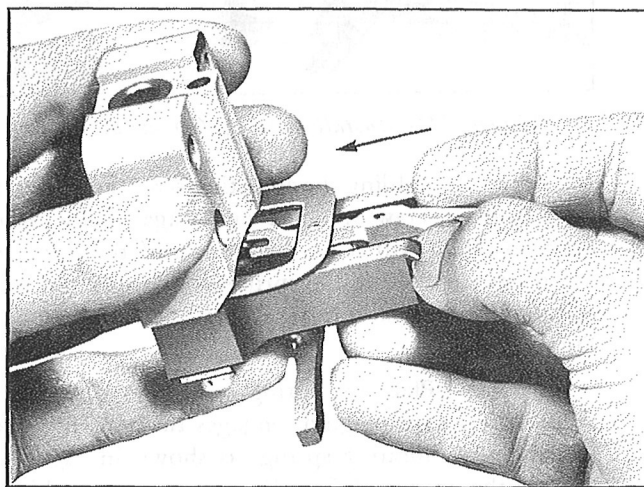

Figure 239—Installation of the Lever
*Step 7.*—Taking the lever part, insert it between the lever roller of the carriage and the lever locating spring. Install in such a way that the flat side of the lever faces the roller, and the slotted end of the lever engages the pin in the piston slot. Move the lever slightly until the hole in the lever is in line with the hole in the locating spring, as shown in Figure 239.